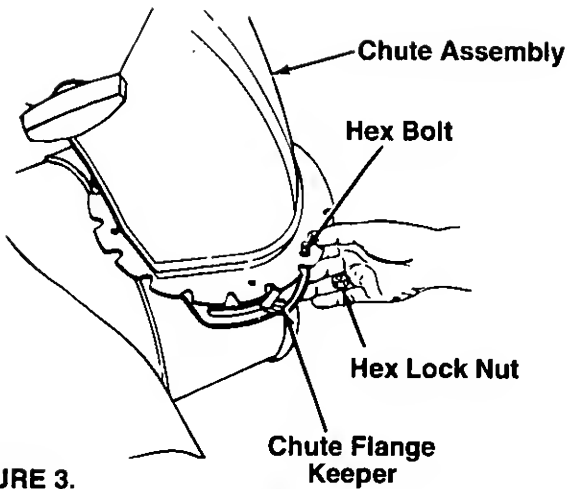

FIGURE 3.
2. Place chute assembly over chute opening, with the opening in the chute assembly facing the front of the unit. Place chute flange keepers beneath lip of chute assembly. Insert hex bolt up through chute flange keeper and chute assembly as shown in figure 3. Secure with hex lock nut. After assembling all three chute flange keepers, tighten all nuts and bolts securely, then back off 1/4 turn to allow easier movement.